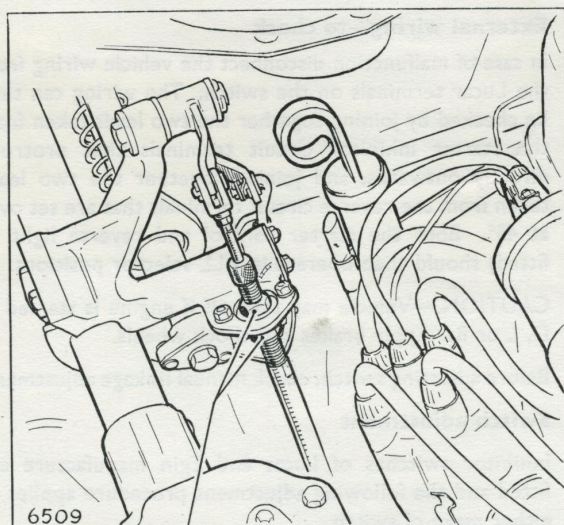

Fig. 11. Selector cable adjustment position
Fig. 11 shows this adjustment at the upper end of the cable. The method of adjustment is as follows.
5. Adjust cable at its upper end, shown in Fig. 11, so that it can be reconnected to the gearbox lever.